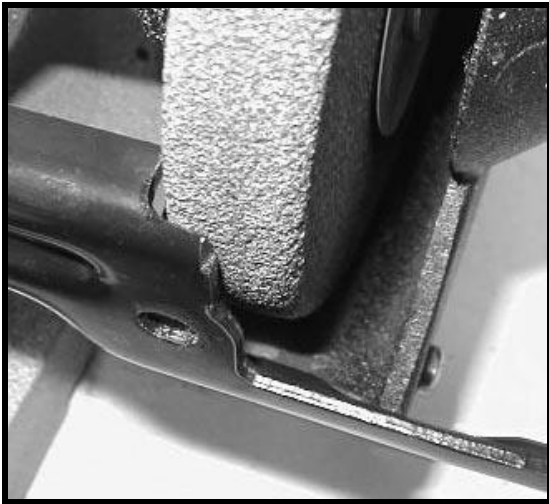

Figure 1
3. Remove the four (4) throttle body mounting bolts and retain.
8. Modify the throttle linkage with a bench grinder (Figure 1).